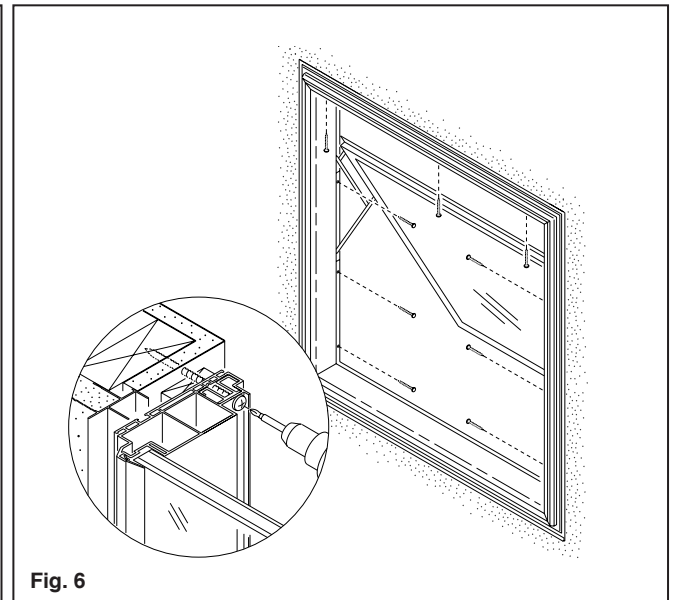

Fig. 6
C. With the sash fully extended, install the #8 x 1 1/2” Phillips sheet metal screws in the interior sash channel at head and jambs. See **Fig. 6**. An installation screw will have to be installed through the